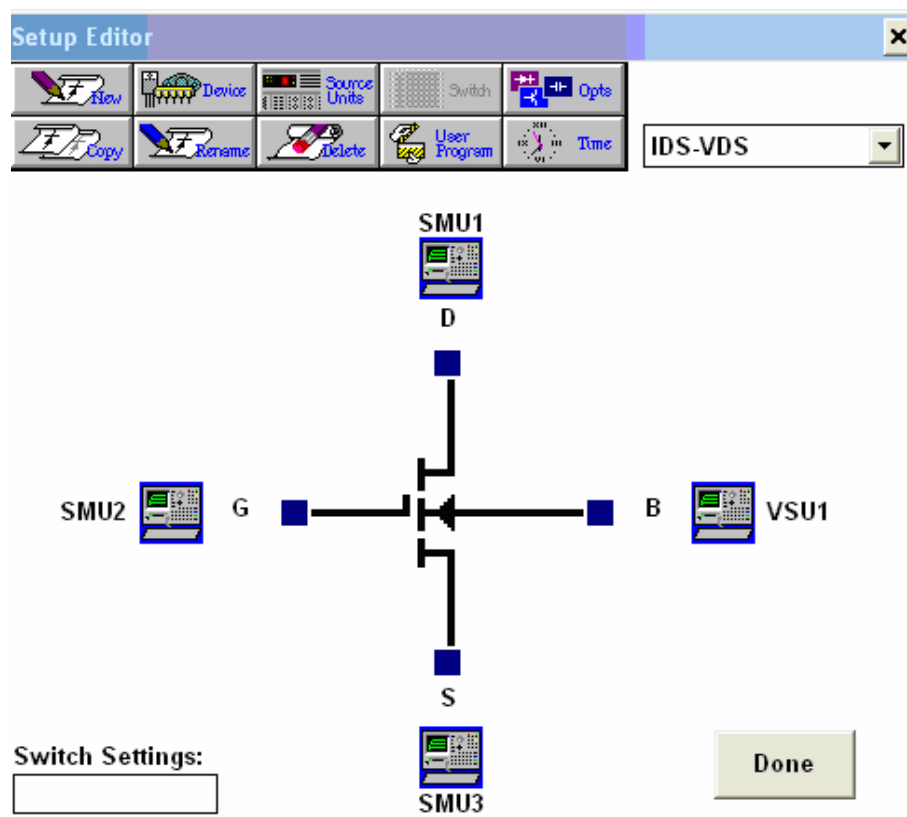

Figure 10: Setup Editor window
6. Setup Editor should look like Figure 10.
7. To sweep the value of the gate voltage(VG) click on SMU2 in the Setup Editor window.